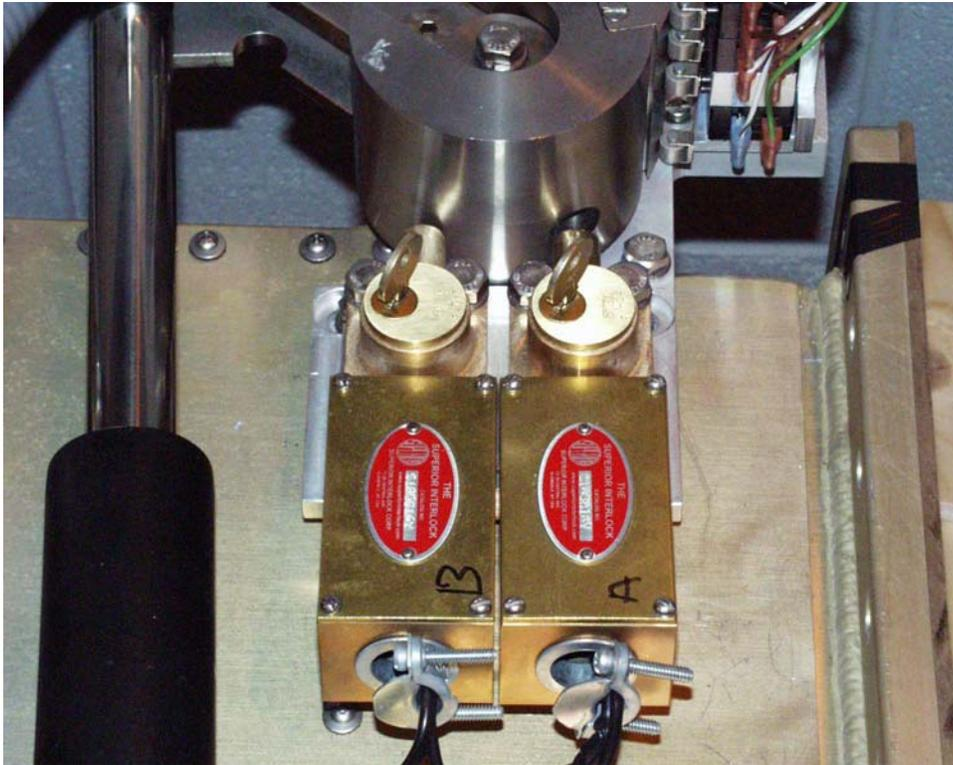

Figure 8 – Dielectric Kirk Lock
- 3.2. Access the Test Stand roof, engage the Kirk lock mechanisms for both shutters, remove and pocket the keys (Figures 8 & 9) ***NOTE: The Test Stand roof is a hard hat area.***